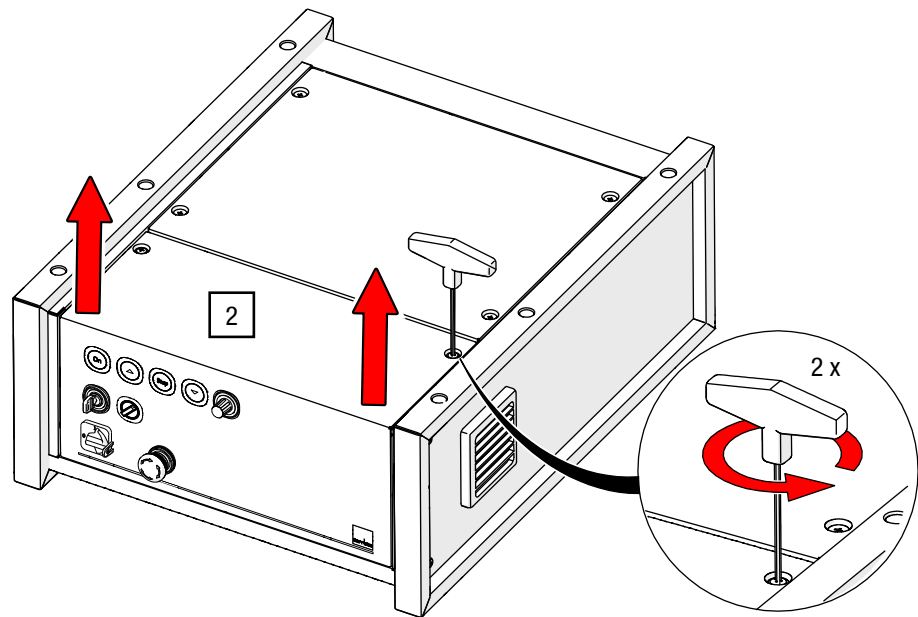

Fig. 23: G-FRAME 54 – Releasing and lifting the control panel
2. Loosen the control panel with the Allen key AF 3 on both sides and lift off the control panel (see Fig. 23).